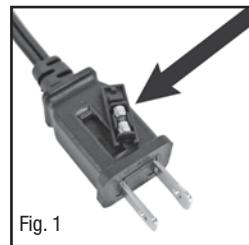
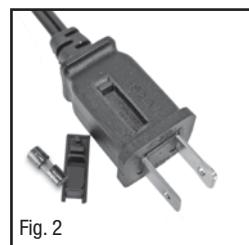

Fig. 1
Fig. 2
2. If your fan loses power and you suspect that the fuse on your fan has blown, you should first remove the spare fuse holder attached to the cord plug (Fig. 1). Remove the spare fuse from the plastic spare fuse holder, and set the spare fuse aside (Fig. 2).